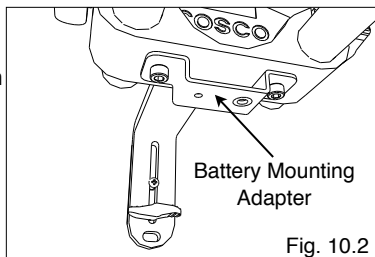

Fig. 10.2
2. Position the Battery Mounting Adapter under the sled as depicted in Fig. 10.2 and fasten with the two cap screws.